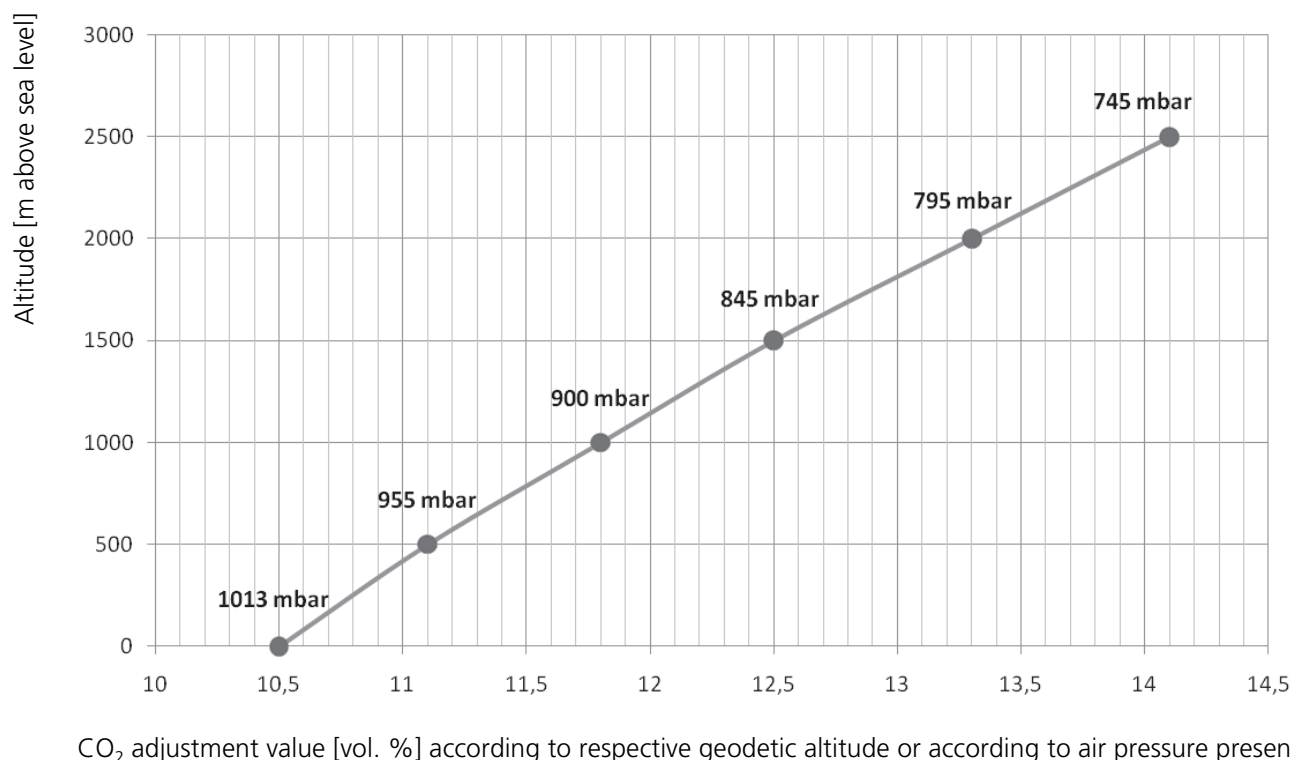

Fig. 601 CO₂ adjustment value (permissible from 10.5 to 14.1 vol. %)
- Now the CO₂ content must be adjusted as shown in Fig. 601. When adjusting, the following applies: